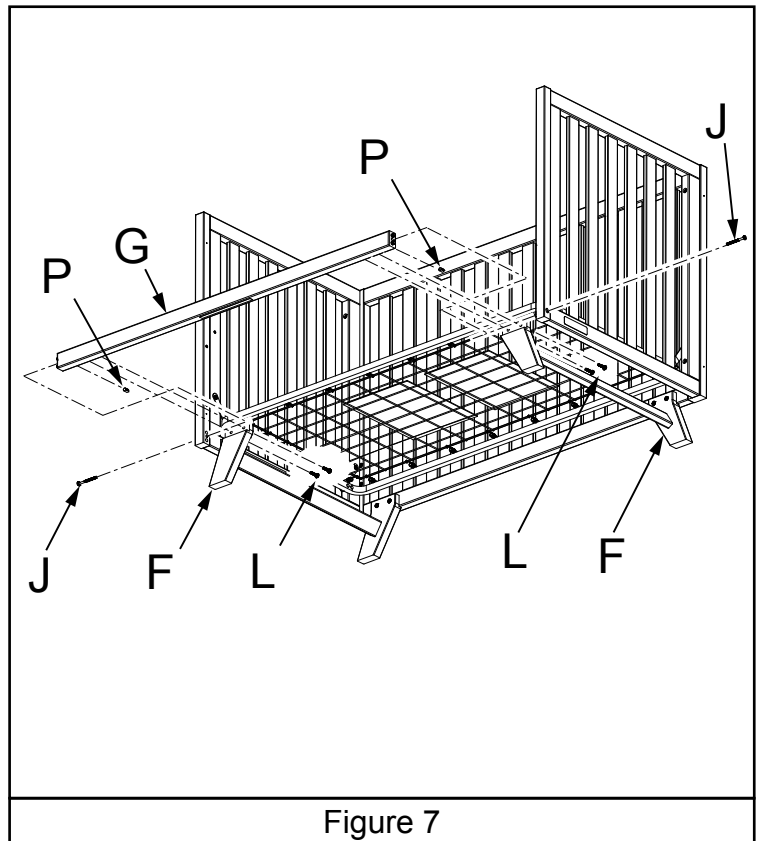

Figure 7
Snug Allen Head Bolts (J) into Toddler Bed Rail (G). Attach leg assemblies (F) to (G) and (B) as shown in Figure 7.
See Figure 7.